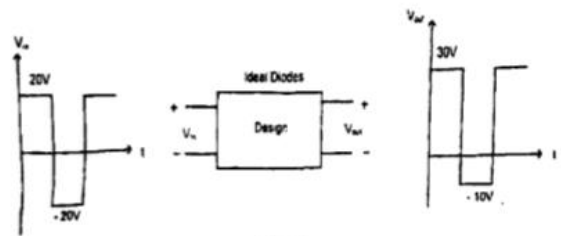

Figure 3
- (b) Design a clamper to perform the function shown in the Figure 3 shown below 8+6=14